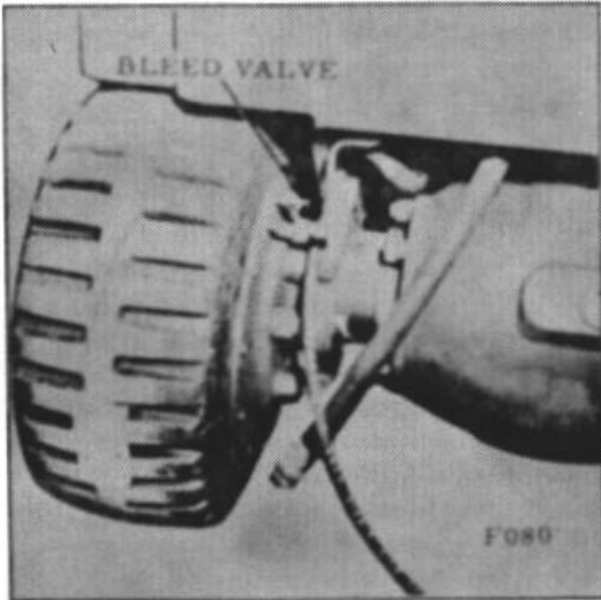

Figure 15.
2. Check brake fluid level and air pressure in the pressure bleeder; then attach bleeder to the master cylinder. (Do not open the valve on the bleeder at this time.) Affix bleeder hose to the bleed valve on the wheel cylinder farthest from the master cylinder. (Fig. 15)